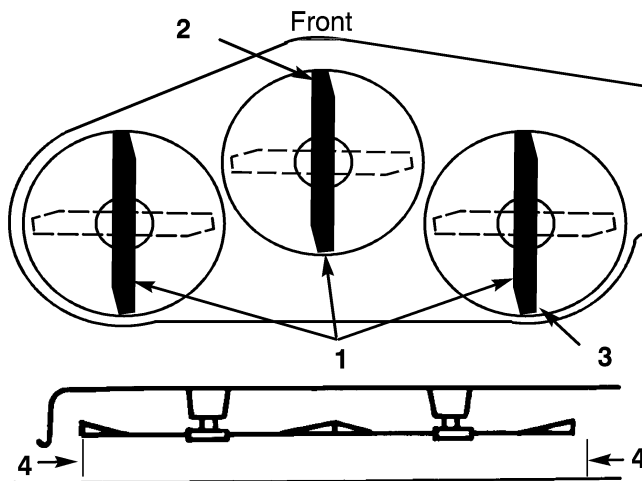

Figure 45
- Set the height-of-cut at 3 inch (76 mm) and carefully rotate the blades so they are facing front to rear (Figure 45).
- Measure between the tip of the front blade (Figure 45) and the tip of the rear blade to the flat surface. If the front blade tip is not 1/16-5/16 inch (1.6-7.9 mm) lower than the rear blade tip, adjust the front trunion rods.
- After adjusting both trunion rod yokes evenly, secure the yokes with the hairpin coppers. Check the front-to-rear level again. Continue adjusting the yokes until the front blade tip is 1/16-5/16 inch (1.6-7.9 mm) lower than the rear blade tip (Figure 45).